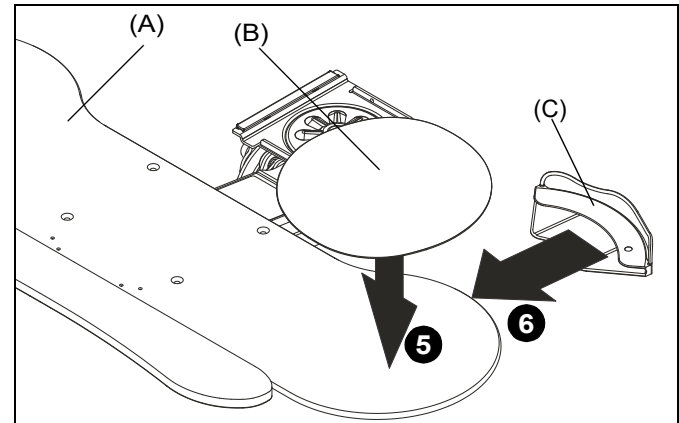

Figure 4
5. Place mouse pad (B) onto tray surface. (See Figure 4)
6. Slide mouse fence (C) onto tray surface. (See Figure 4)